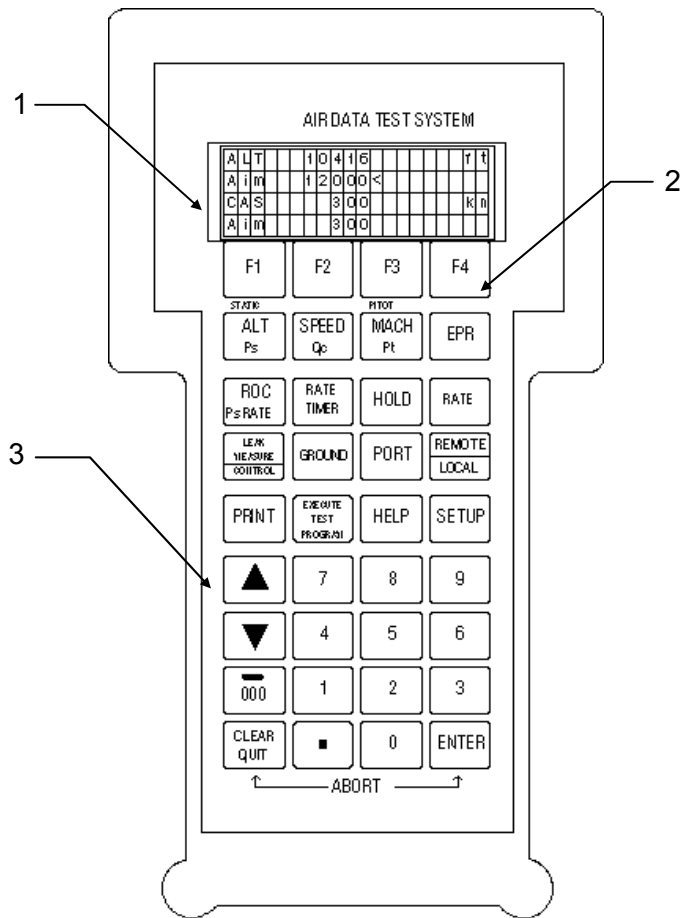

Figure 5 DPS500/501 Remote Handheld Terminal
C. REMOTE HANDHELD TERMINAL (Fig. 5).
- (1) REMOTE DISPLAY Displays pressure and rate values of the user selected Air Data / Pitot-Static parameters. The display also shows the operational menus when setting up the unit. The display fields may be changed so one, two, or three parameters are shown concurrently.
- (2) FUNCTION KEYPAD Selection keys for menu options available during Setup or Configuration of the DPS500/501.
- (3) REMOTE KEYPAD Provides the interface to select and change the Air Data / Pitot-Static functions. The Local Keypad is disabled while the Remote Hand terminal is connected.